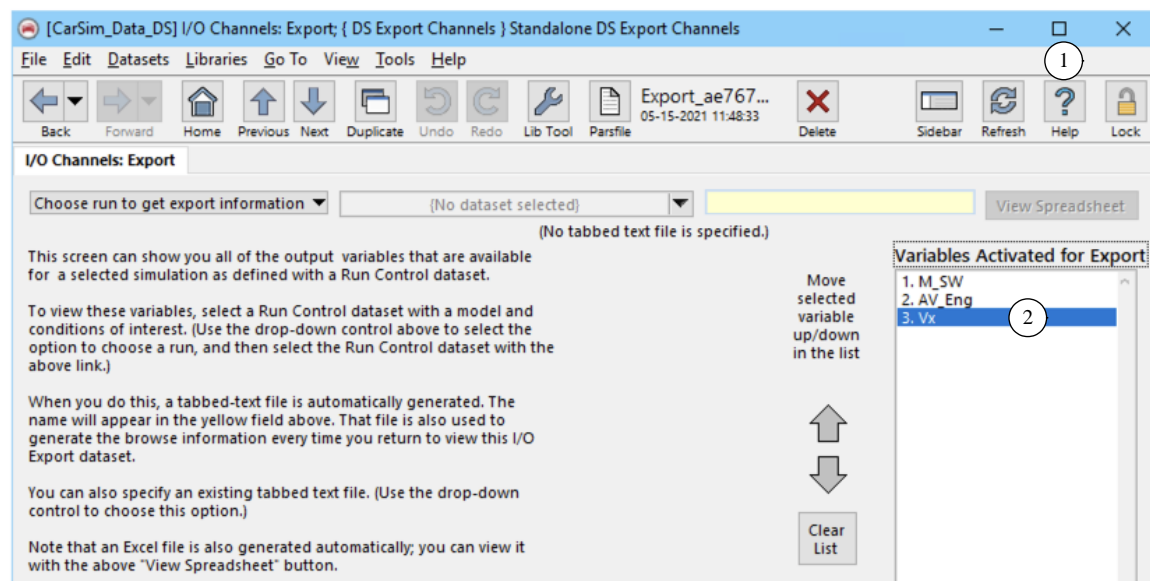

Figure 16. I/O Channels: Export screen, with specification for three export variables.
The **I/O Channels: Export** screen allows the end-user to define the Export Array, a list of variables that are calculated by the VS Solver every time-step and supplied to `TabletopDS.exe`, Simulink, or VS Commands. In the case of Windows DS, the Export Variables (Figure 16, ②) represent vehicle data provided to the control software (`TabletopDS.exe` or Simulink) and the Logitech hardware. As with the **I/O Channels: Import** screen, there is on-line **Help** (Figure 16, ①) describing the operation of the GUI options for activating any of the available Import variables.